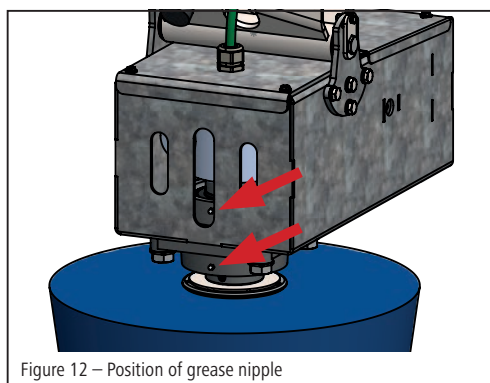

Figure 12 – Position of grease nipple
Lubricate the flange bearing units at the locations marked (Fig. 12). Check plain bearing bushes (Fig. 14 - item 2.2) for wear. These parts must be inspected regularly and replaced if they are wearing too much.